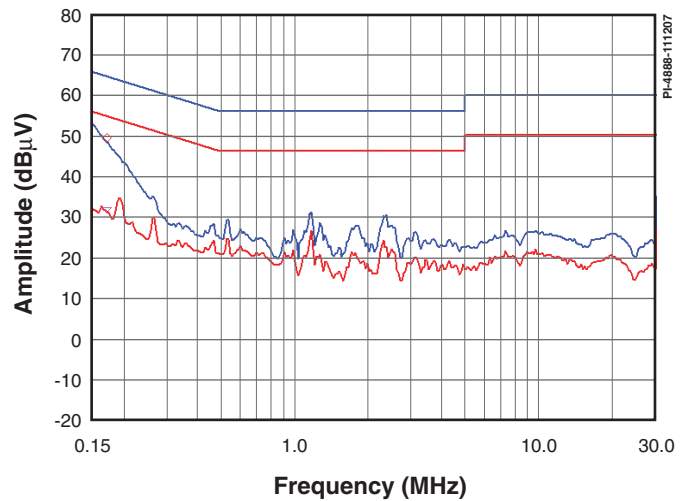

Figure 3. Worst Case Conducted EMI Measured at 230 VAC With Output Grounded.
- Meets CISPR-22/EN55022 B conducted EMI limits with >10 dB μ V margin (see Figure 3)